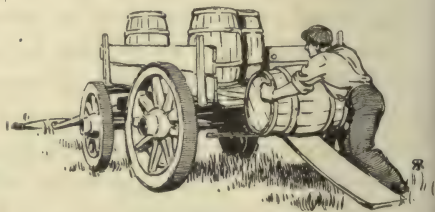

FIG. 153. — Rolling barrels up a plank.
The more intelligent races among men soon learned to help themselves in these tasks. For example, our ancestors soon learned to pry stones out of the ground (Fig. 151) rather than to undertake the almost impossible task of lifting them out of the earth in which they were embedded; to swing fallen trees away from a path by means of rope attached to one end rather than to attempt to remove them single handed; to pitch hay rather than to lift it; to clear a field with a rake rather than with the hands; to carry heavy loads in wheelbarrows (Fig. 152) rather than on the shoulders; to roll barrels up a plank (Fig. 153); and to raise weights by ropes. In every case, whether in the lifting of stones, or the felling of trees, or the transportation of heavy weights, or the digging of the ground, man used his brain in the invention of mechanical
**The inclined plane.**—A man wishes to load the 1600-pound boulder on a wagon, and proceeds to do it by means of a plank, as in Figure 153. Such an arrangement is called an inclined plane.